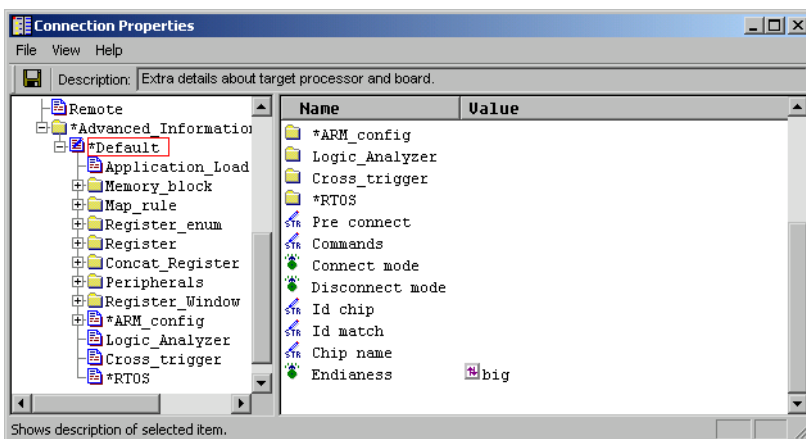

Figure 4-9 Default group in the Connection Properties window
4. Double-click on the Default group, in the right pane, to see the Connect_mode and Disconnect_mode settings, shown in the example in Figure 4-9.
As shown in Figure 4-9, configure connection behavior in your board file using the settings: